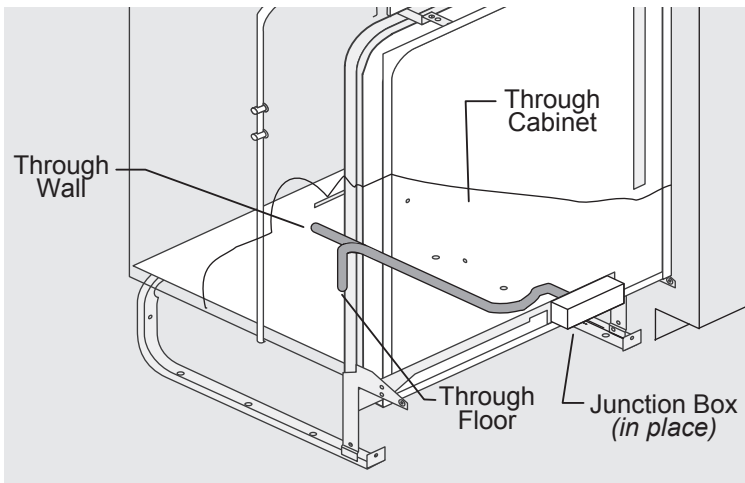

Figure 14
1. Remove junction box cover and pull house wiring into junction box. **See Figures 14 and 15.**